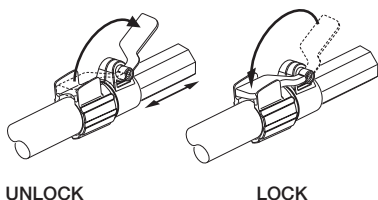

Figure 18 - Extending Telescopic Pole
1. To extend the pole, loosen the clamping lever (see Figure 18). Pole will slide freely.
3. To lock pole in position, tighten clamping lever (see Figure 18).